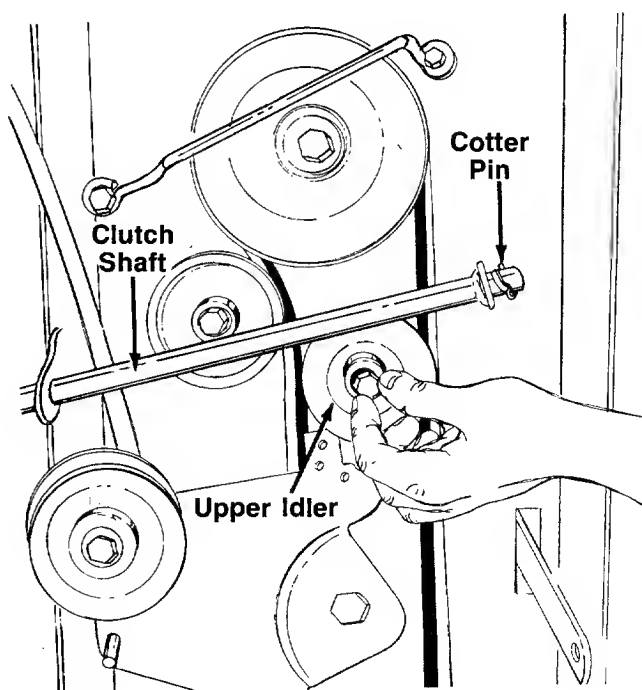

FIGURE 19.
8. Remove the cotter pin from the clutch shaft and pull it out of the bracket. See figure 19.